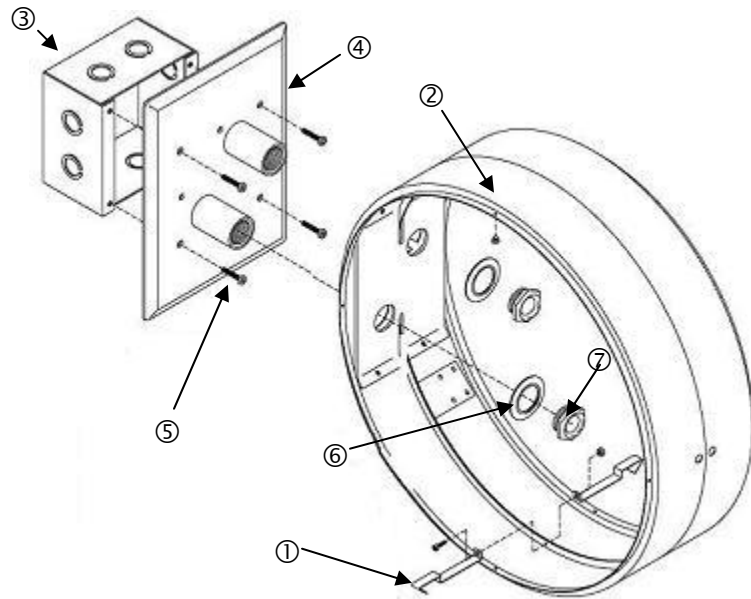

Figure 1: 12 inch Double Mount Assembly
1. The illustrations shown apply to wall mount applications. For ceiling mount applications, install spring clips (Fig 1, #1) at 6 o'clock position and screws (Fig. 1, #2) at 12 o'clock position.
2. Install wall box (Fig. 1, #3)
- a. For battery models attach box adaptor plate (Fig 1, #4) to wall box with (4) #8-32 x 1" screws (Fig 1, #5).
- b. For AC models route the AC supply wires through one of the couplings and attach box adaptor plate (Fig 1, #4) to wall box with (4) #8-32 x 1" screws (Fig 1, #5).
3. Attach case assembly to couplings with recessed flanged washers (Fig. 1, #6) and chase nipples (Fig. 1, #7). Tighten all components securely.